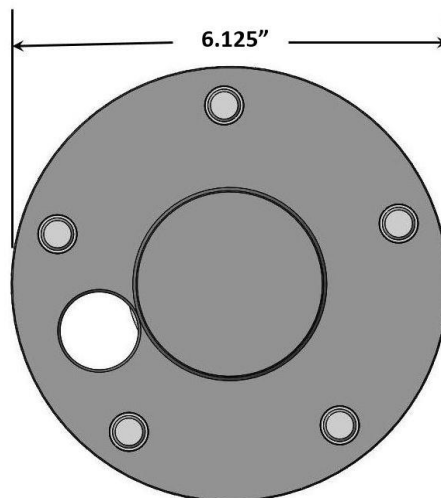

Figure 1 – Measuring the Axle Flange
4. The outer diameter of the axle flange can be no larger than 6.125" in outside diameter. This is critical for proper fitment of the rotor over the axle flange. For axle with a flange larger than 6.125", using a lathe, machine the outer flange down to no larger than 6.125". See Figure 1 below for measuring reference.